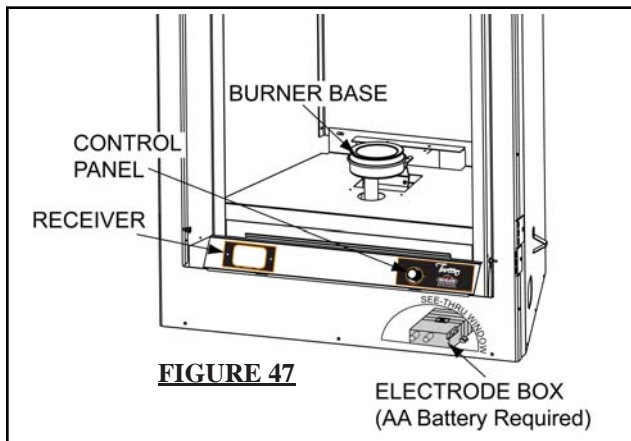

FIGURE 47
2. Tilt the control panel forward allowing access to the electrode box which is screwed to the base of the firebox. (Fig. 47)